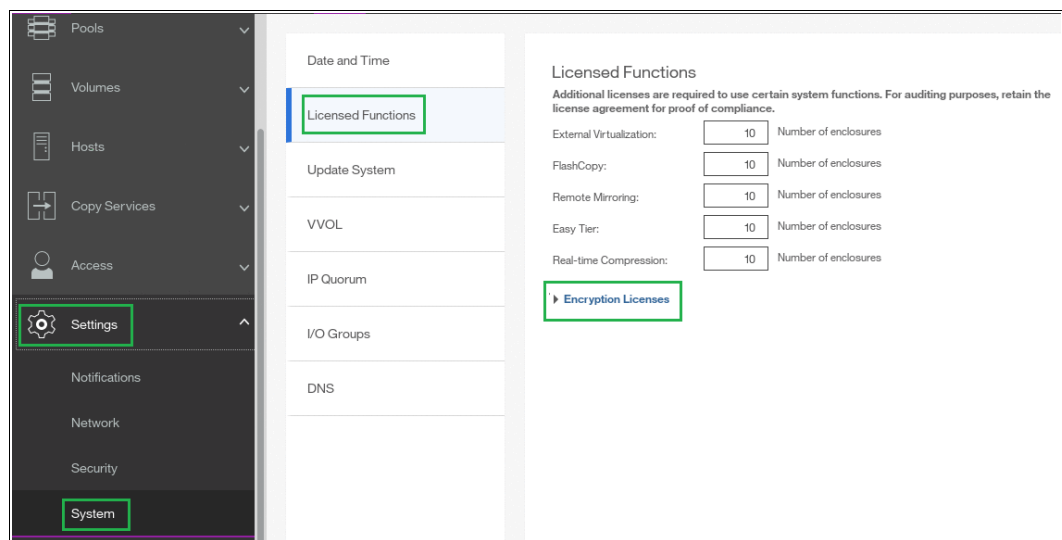

Figure 13-9 Expanding Encryption Licenses section on the Licensed Functions view
1. Click **Settings** → **System** → **Licensed Functions** and click **Encryption Licenses**, as shown in Figure 13-9.